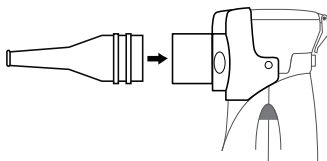

Fig. 9
- Install the mouthpiece: connect the mouthpiece to the outlet of outer cover along the direction of arrow (see Fig. 9).